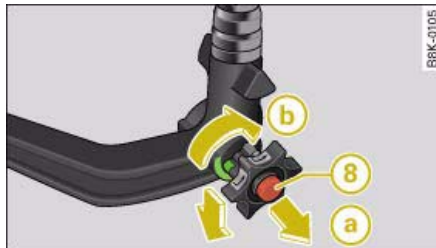

Fig. 214 Removable towing bracket: Removing the ball joint
- Take off the cover cap and insert the key (8) ⇒ fig. 214 in the lock on the knob.